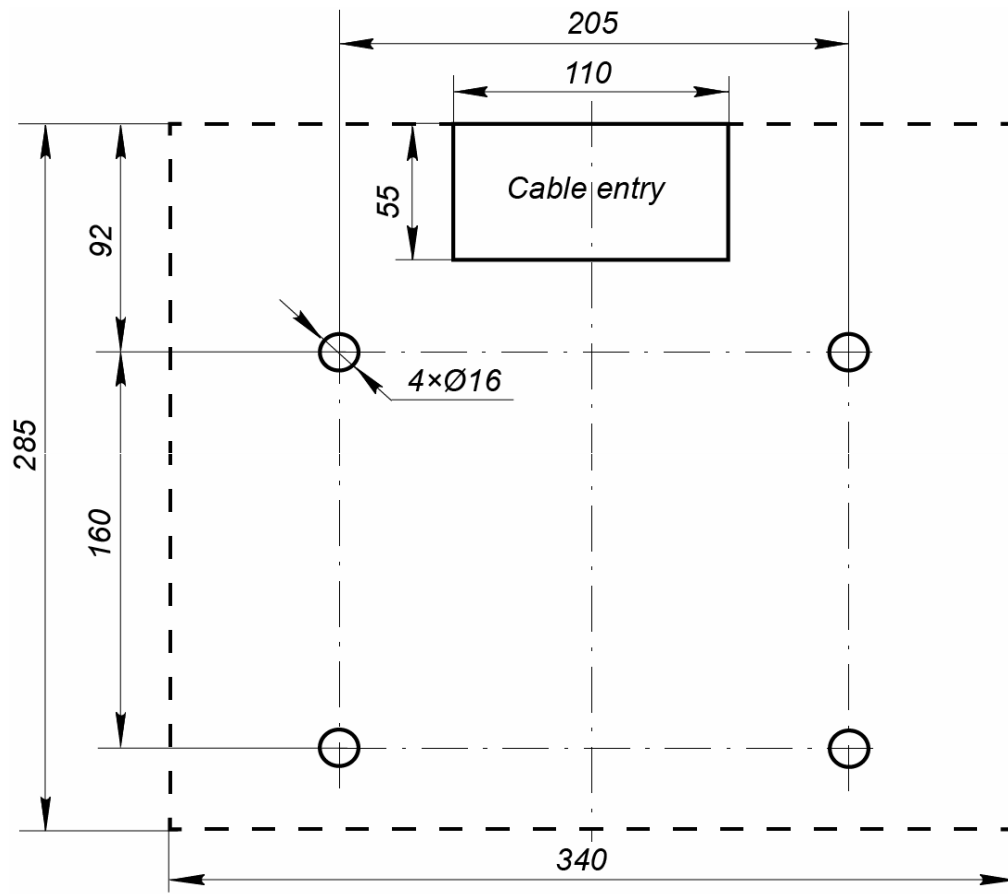
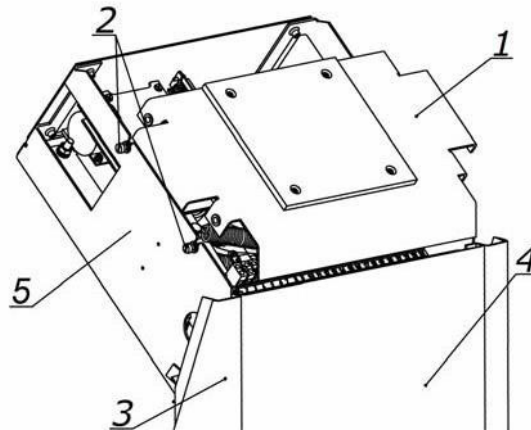

Figure 10. Floor anchor position and cable entries for housing installation (turnstile housing is dotted)
Figure 11. Turnstile with cover removed
2. Make the holes for anchor bolt (15) sleeves for the turnstile housing installation (Fig. 10).
3. Install the turnstile power supply unit (9) in its place (See power supply unit certificate for installation procedure of the turnstile power supply).
4. If you lay out cables under the floor surface, make an electric raceway to the cables entry zone of the turnstile housing (shown in Fig. 10).
6. Remove the cover (2) in order given in Chapter 6.
7. Remove the reinforcement plate (see Fig. 11). To do so first loosen 4 fixing screws of the plate with the flat slot screwdriver.
12. Connect the RC panel cable (14) (WRC / ACS controller) to **XS1** connector block.
14. Connect the power cable (11) from the turnstile power supply to **XS1** connector block.
15. If needed, install the proximity card readers into the special places, situated in the housing (5 in Fig. 11). To connect card readers use free contacts (15 - 24) of the **XS1** connector block.